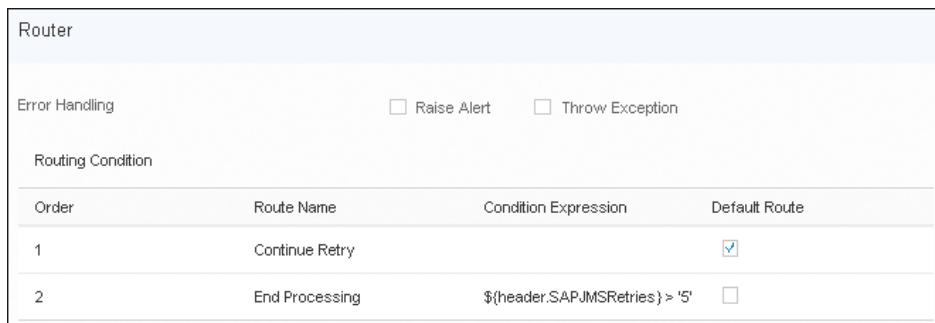

Figure 5.102 Configuration of Router Step in Local Integration Subprocess
3. The JMS sender adapter sets the header SAPJMSRetries at runtime. This header allows you to configure a specific retry behavior: it contains the number of retries that already are executed. Based on the value of this header, we can configure whether the message processing continues or ends. If we configure it to end, we can also configure that the message is processed in an alternative way. This is done in the **Router** step. As a simple example, we want to configure that after five retries, the message is sent via email to an administrator, and no further retries are executed from the JMS queue. We configure the two routes leaving the **Router** step per Figure 5.102: